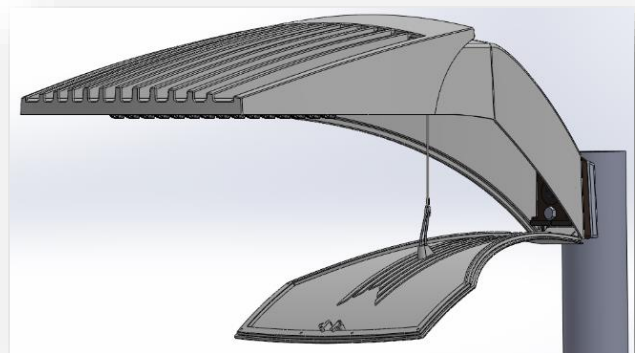

Fig.7
- Attach Door to luminaire (Fig. 6) and hook door to luminaire with aircraft cable (Fig. 7).